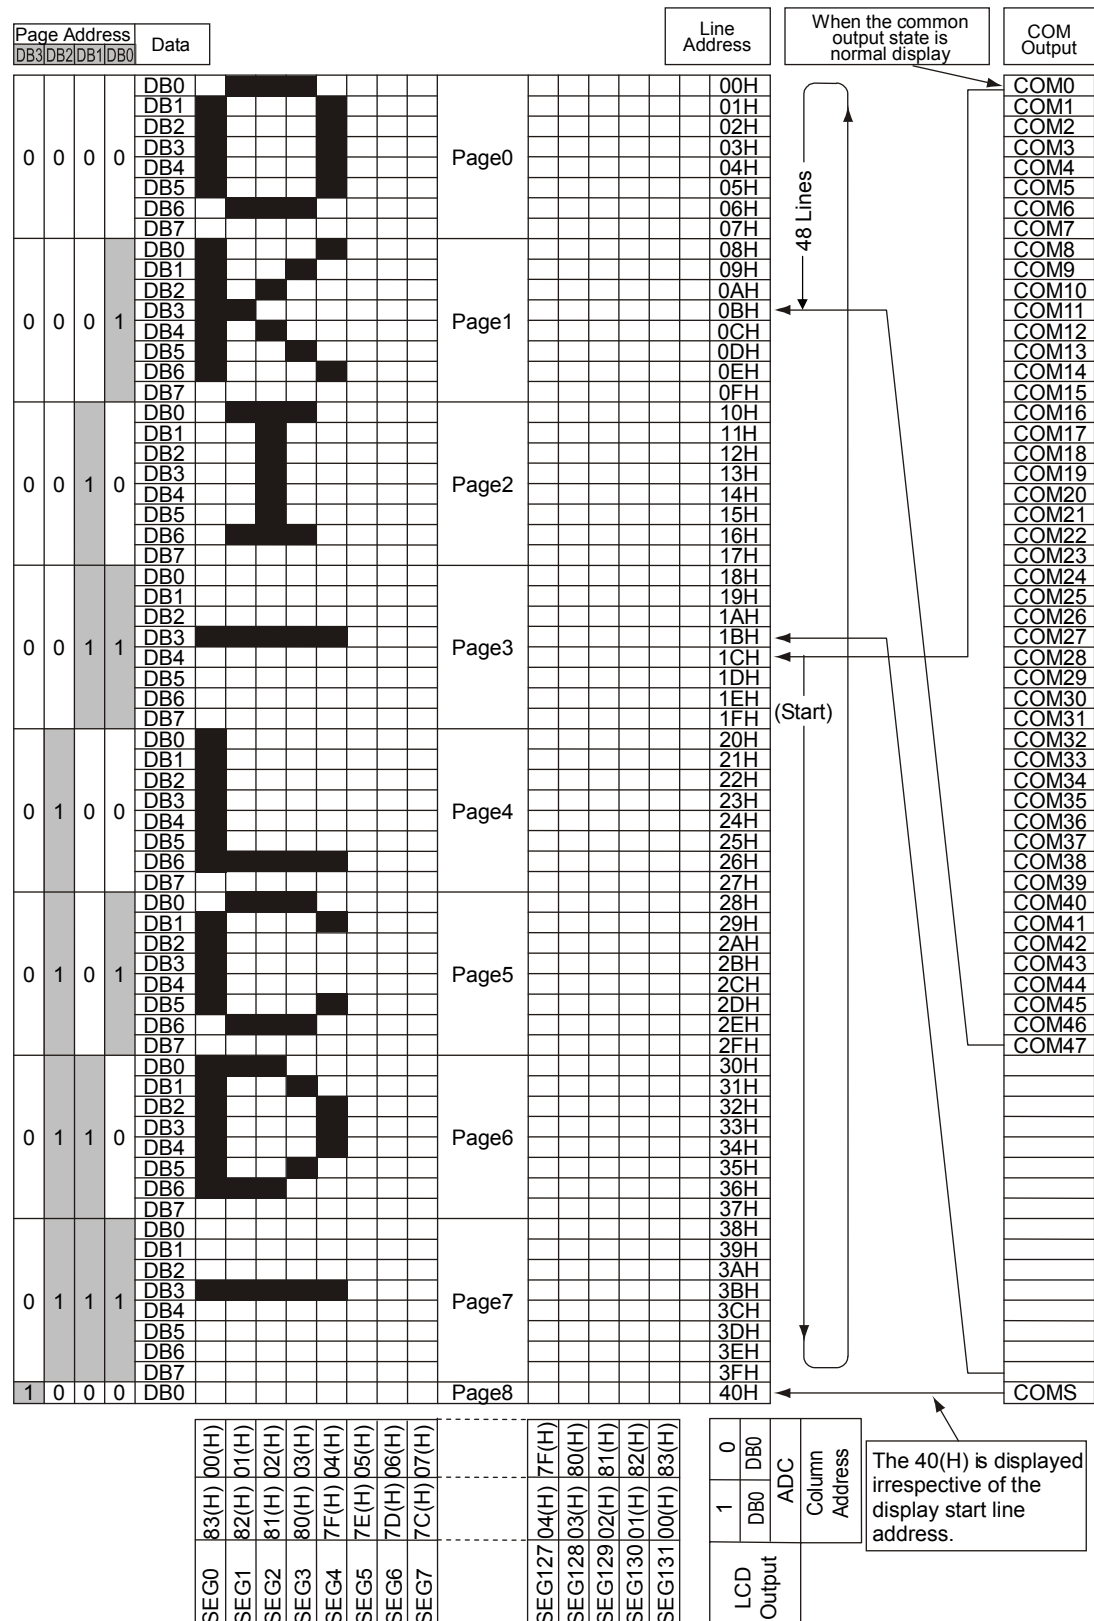

Fig. 4 Display data RAM address map
The page address of the display data RAM is specified using the page address set command as shown in Fig. 4. Specify the page address again when accessing after changing the page. The page address 8 (DB3, DB2, DB1, DB0 → 1, 0, 0, 0) is the RAM area dedicated to the indicator, and only the display data DB0 is valid in this page.
The column address of the display data RAM is specified using the column address set command as shown in Fig. 4. Since the specified column address is incremented (by +1) every time a display data read/write command is issued, the MPU can access the display data continuously. Further, the incrementing of the column address is stopped at the column address of 83(H). Since the column address and the page address are independent of each other, it is necessary, for example, to specify separately the new page address and the new column address when changing from column 83(H) of page 0 to column 00(H) of page 1. Also, as is shown in Table 5, it is possible to reverse the correspondence relationship between the display data RAM column address and the segment output using the ADC command (the segment driver direction select command). This reduces the IC placement restrictions at the time of assembling LCD modules.
The line address circuit is used for specifying the line address corresponding to the common output when displaying the contents of the display data RAM as is shown in Fig. 4. Normally, the topmost line in the display is specified using the display start line address set command (COM0 output in the forward display state of the common output, and COM47 output in the reverse display state). The display area is 48 lines in the direction of increasing line address from the specified display start line address. When the indicator-dedicated common output pin (COMS) is selected, data in Line Address 40 H = page 8 and bit 0 is displayed irrespective of the display start line address. COMS selection is 49th in order.